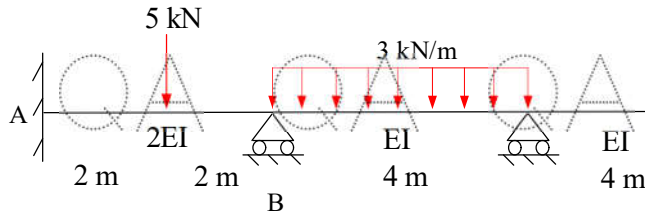

Figure 6
8. Determine the reactions and the member end forces for the three-span continuous beam as shown in figure 6 by using the matrix stiffness method. Draw BMD and elastic curve. [10]